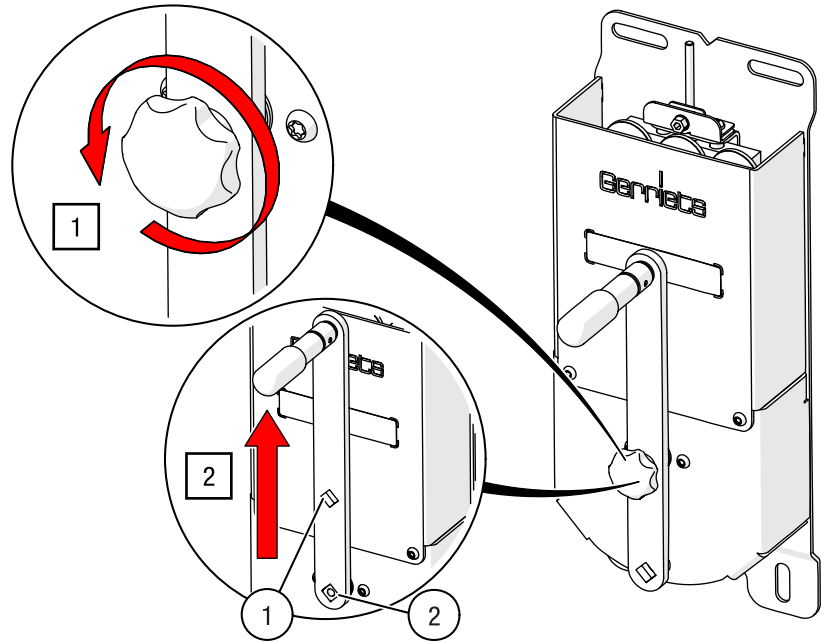

Fig. 138: HAND-DRIVE – Changing the crank ratio
1. Unscrew the star screw of the crank handle from the inner holder (item 1) of the crank arm and remove the crank arm from the fixing point (see Fig. 138).
2. Guide the outer holder of the crank arm over the fastening point (item 2) and re-tighten the fastening screw hand-tight (see Fig. 138).